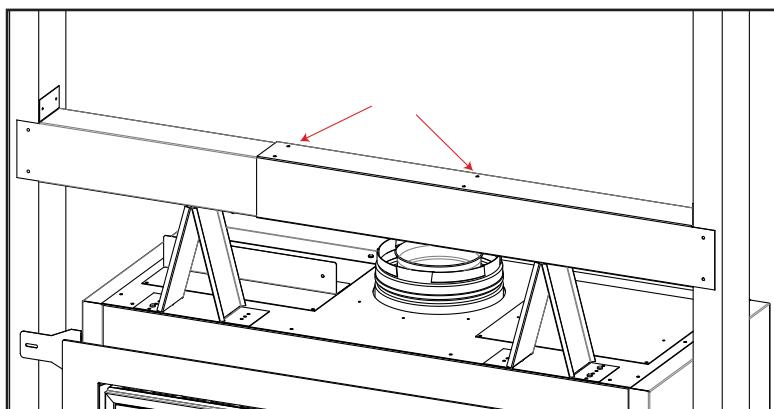

Figure 18: Steel Stud Attachment
- Using the provided sheetmetal screws, attach the two steel stud pieces together using the labeled holes in Figure 18. This should be done on the top and bottom of the steel stud to ensure its rigidity.
The location for the fireplace can be raised, at floor level, or installed in a corner. There are specific framing measurements for each situation. The basic rough opening should have the dimensions shown in Figure 18. The fireplace must have a strong and level surface to be placed on. The surface should be made of wood or another robust, non-combustible material.